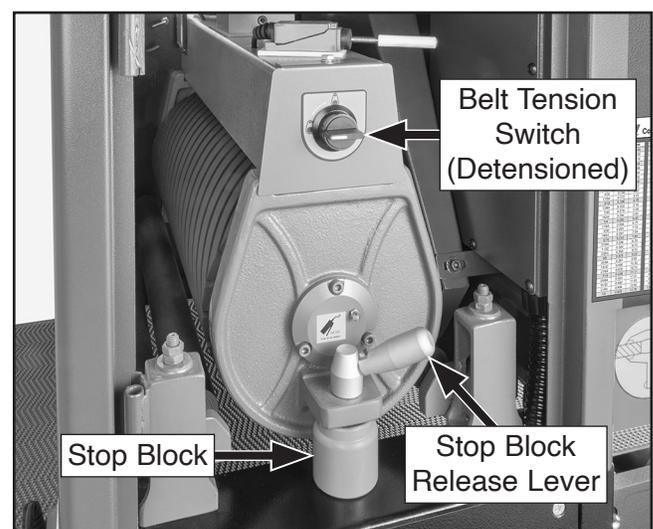

Figure 19. Sanding belt installation components.
7. With machine connected to air, open left door and turn belt tension switch counterclockwise to detensioned position (see **Figure 19**).
8. Remove stop block release lever by turning it counterclockwise a $\frac{1}{2}$ turn and pulling it up and out of mounting hole (see **Figure 19**).
9. Remove stop block (see **Figure 19**).